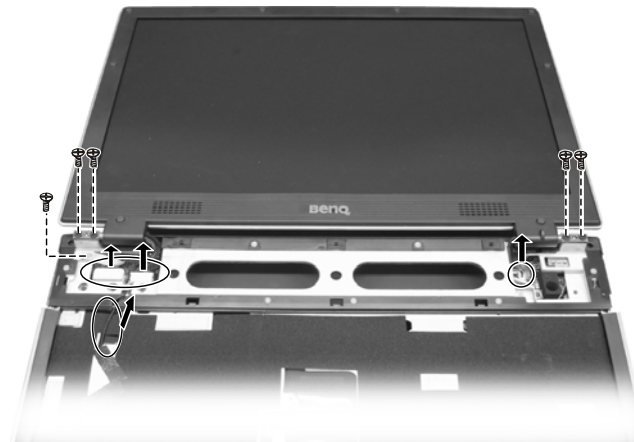

Figure 2-15 Free the LCD ASSY
2. Remove five screws that secure the hinge and disconnect three cables. (Figure 2-15)